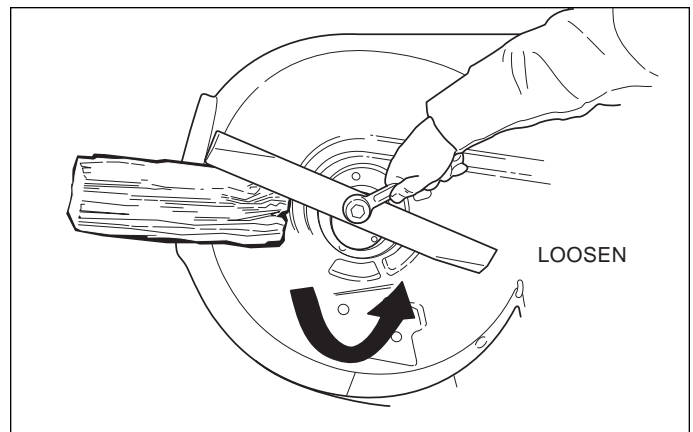

Figure 2. Blade Removal
2. See Figure 2. Remove the blades. Use a block of wood to prevent blade rotation while loosening the blade nut by turning it counterclockwise.